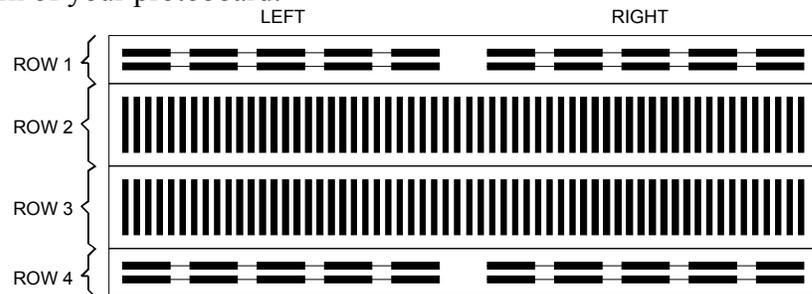

Figure 3. Solderless breadboard
You have already seen one protoboard configuration in the Lab 1 simulation. The solderless breadboard, or prototyping board, is a white plastic device with holes that are connected together in a specific pattern. These connections function as wires by providing continuity between components in the circuit as follows. Circuit components are placed in the breadboard by inserting their wires or “leads” into the holes on the breadboard. Since the holes are connected together in a specific pattern, many components can be connected together without any additional wiring. The typical hole-to-hole connection patterns for most of the solderless breadboards used in the Glennan Laboratory are shown in Figure 3. Note that some breadboards may differ slightly, if you have any questions ask a TA or use your DMM to determine the continuity pattern of your protoboard.
The heavy lines in (Figure 3) indicate electrical connections or continuity. In rows 2 and 3, the heavy lines run from top to bottom; this indicates vertical continuity. In rows 1 and 4, the heavy lines that are connected by the light and dark horizontal lines indicate horizontal continuity. Please note that for rows 1 and 4, the lines on the left half of center are not connected to the lines on the right half of center. The horizontally connected holes are generally used for power and for ground connections while the vertically connected holes are usually used for general-purpose circuit connections. The spacing between the holes is standardized so integrated circuit (IC) components will fit nicely into the breadboard. Resistors and other components with flexible wire leads also fit nicely into the breadboard.